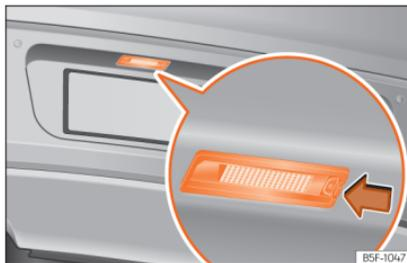

Fig. 63 In the rear bumper: Number plate light.
- Press the number plate light in the direction of the arrow »» Fig. 63.